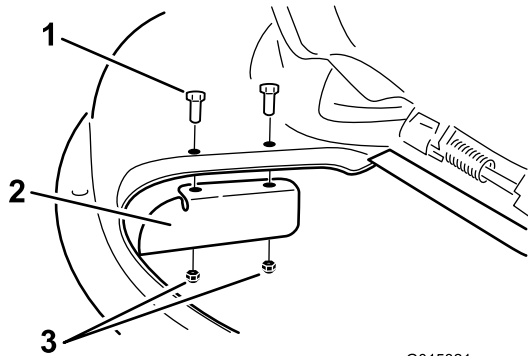

Figure 28
9. Install the cutoff baffle to the mower deck (Figure 28).
3. Remove the cutoff baffle from the mower deck (Figure 28).